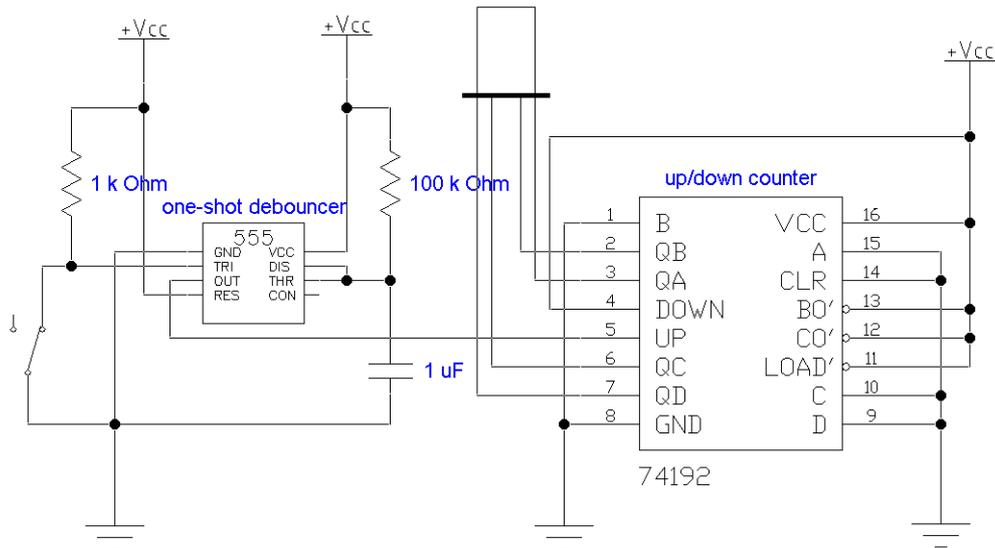

Figure 5.1: EWB circuit diagram
- ⓘ Use *Electronics Workbench* to simulate the circuit shown in Fig. 5.1. Initially, connect a 74192 and a four-input BCD-decoded seven-segment display, and connect a switch that will alternately toggle between a V_{cc} and the ground directly to the “Up” pin on the IC. A virtual switch toggles cleanly and instantly and will require no de-bouncing.
- ⓘ Now complete the full circuit of Fig. 5.1 by connecting the 555-based debouncer. Choose external RC values so that the width of a pulse generated by the monostable is longer than about 50ms, a typical settling time of a real micromechanical switch. Use the virtual oscilloscope to verify that your calculations are correct and the pulse width is as expected.